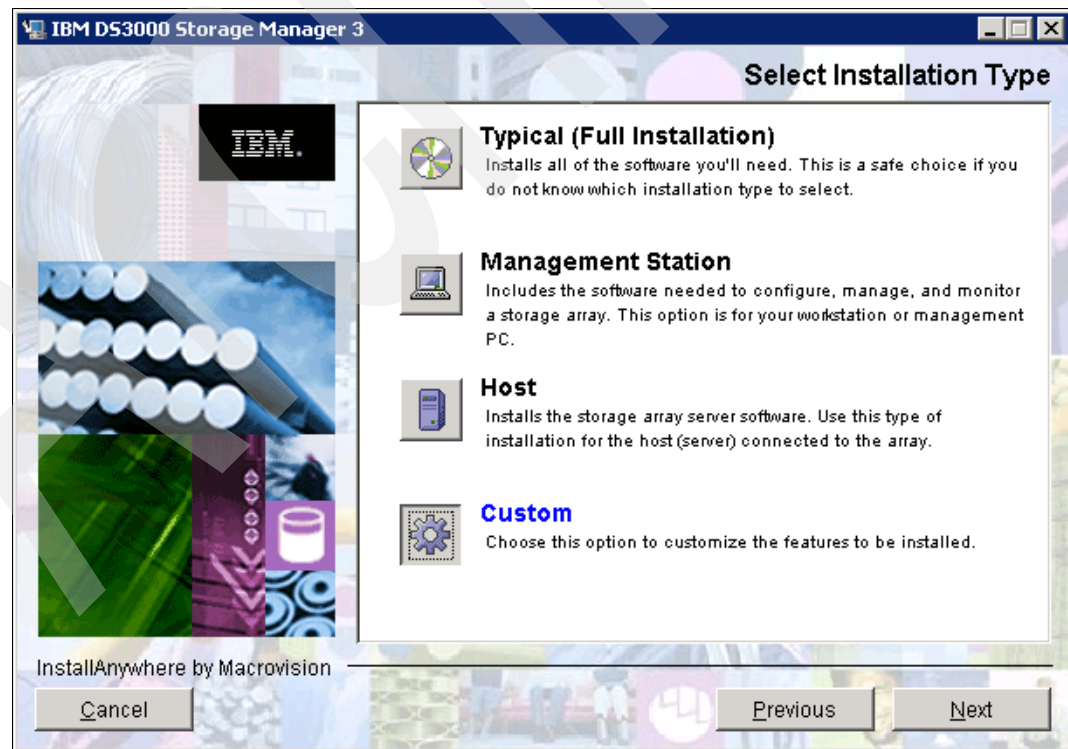

Figure 5-14 Select installation type
6. Figure 5-14 shows the Installation Type selection. Select one of the installation types, depending on whether this is a host server or a management station.